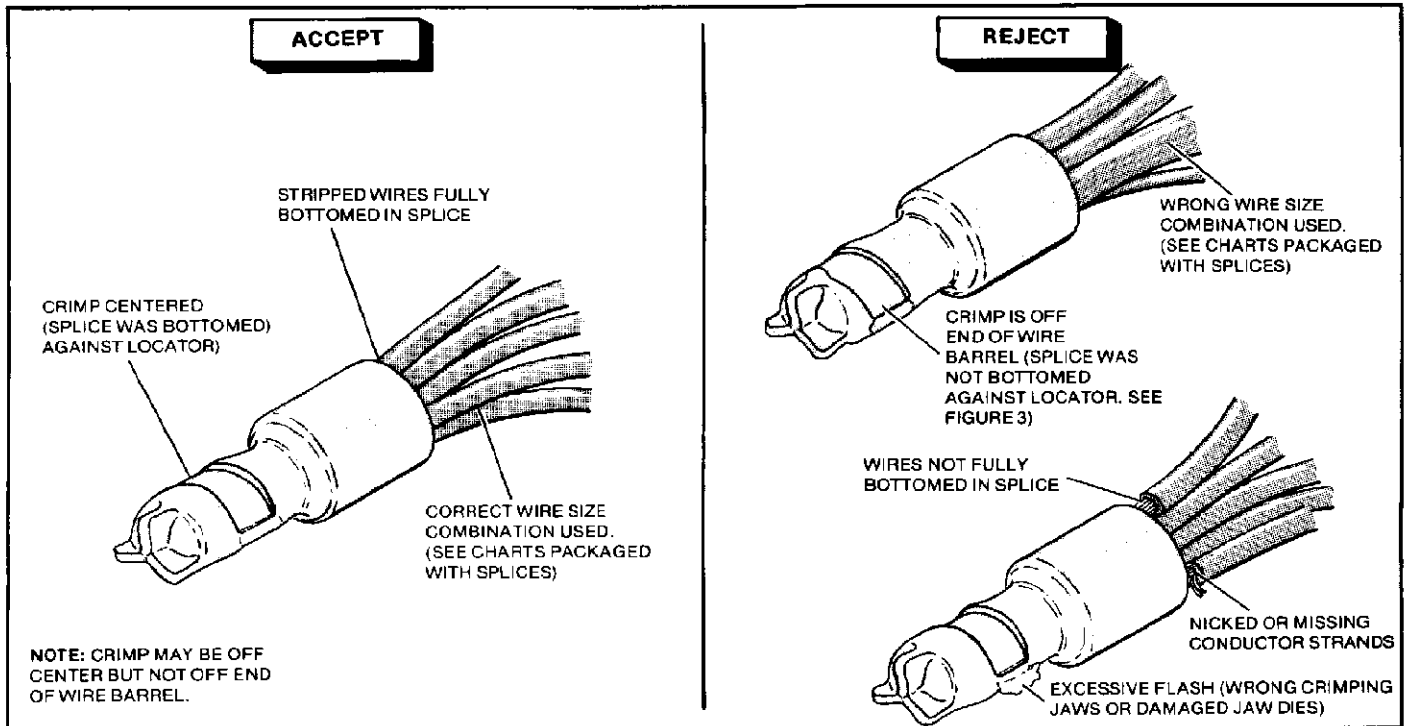

Figure 4
- Refer to Section 3 and Figure 4 for crimp inspection.
Inspect crimped splices by checking for the features described in Figure 4. Use only the splices that meet conditions shown in the "ACCEPT" column of Figure 4. "REJECT" splices can be avoided through careful use of instructions in Section 2 and by performing regular die maintenance as instructed in Section 4.